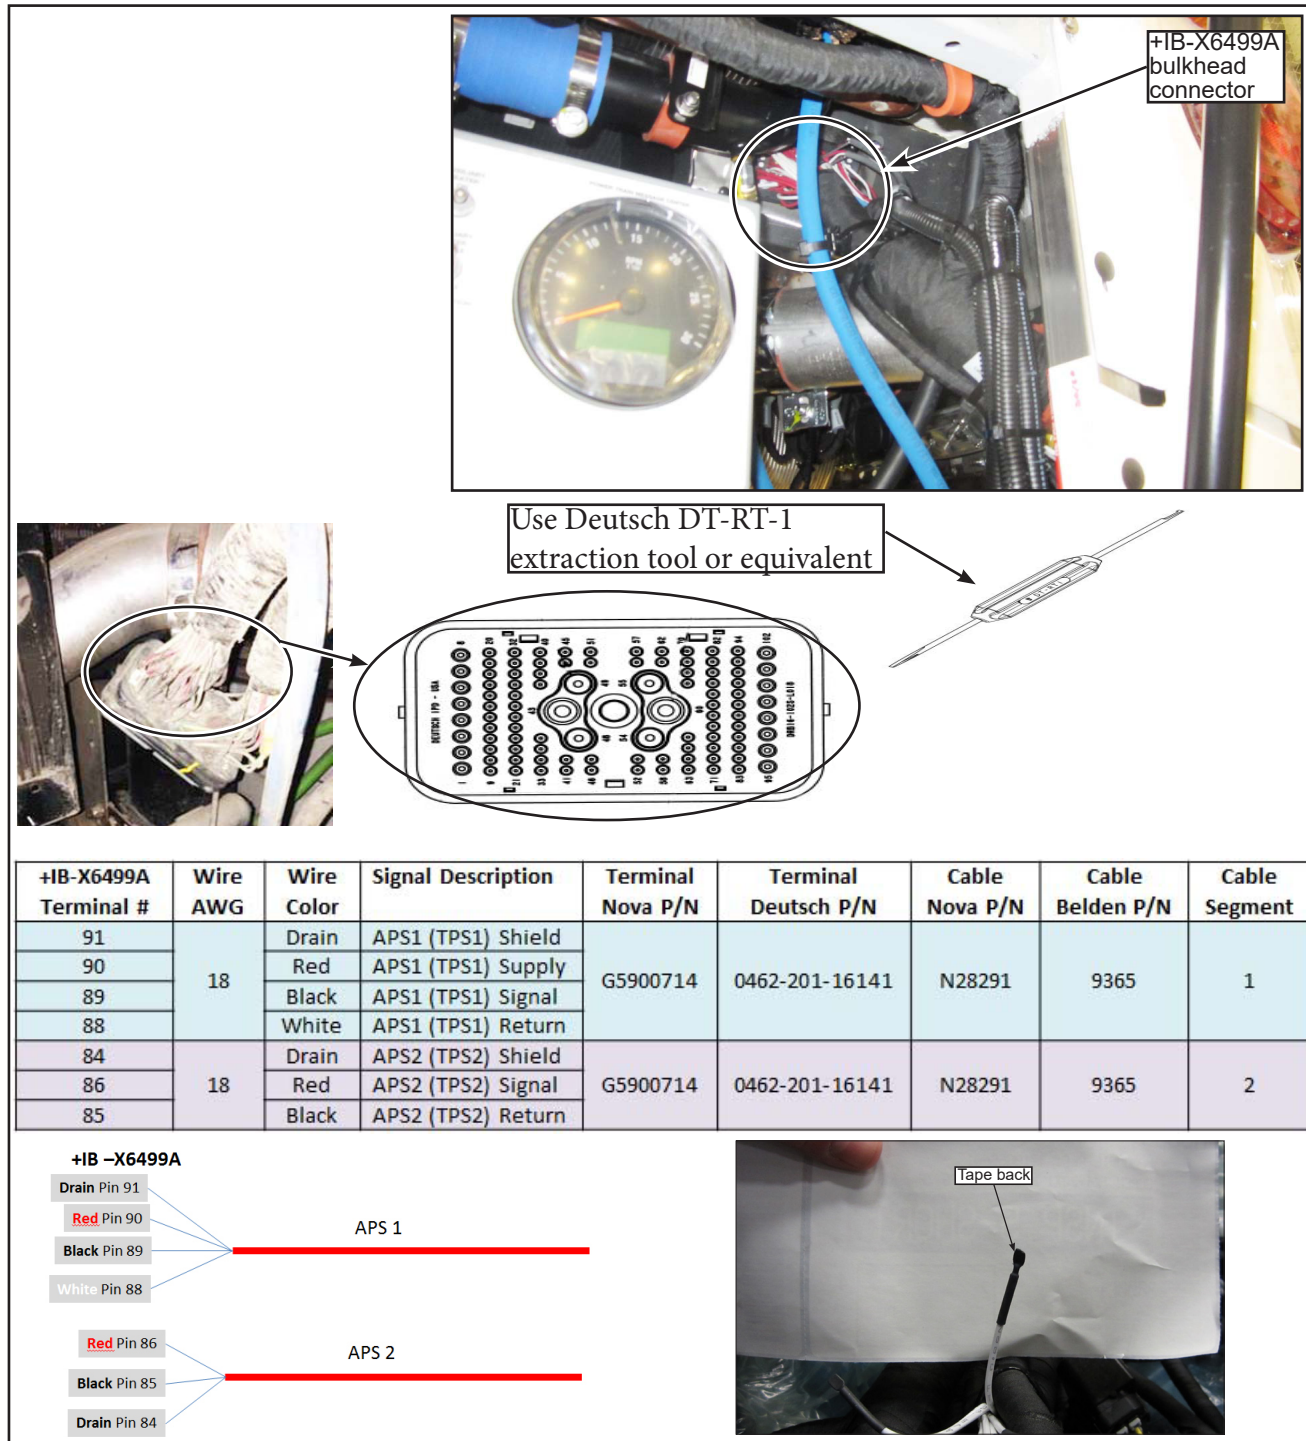

Figure 13 - Install the Seven Wires From the Bypass Cable Wire Kit
- 1.13. Remove the +IB-X6499A bulkhead connector and extract the seven specified terminals for the APS 1 and APS 2 cables. Cut and tape back using N27548-18 all wires that were disconnected. For APS 1, use positions 88, 89, 90 and 91. For APS 2 use positions 84, 85 and 86. Install the seven wires from the bypass cable wire kit. Reassemble the bulkhead connector (see Figure 13).